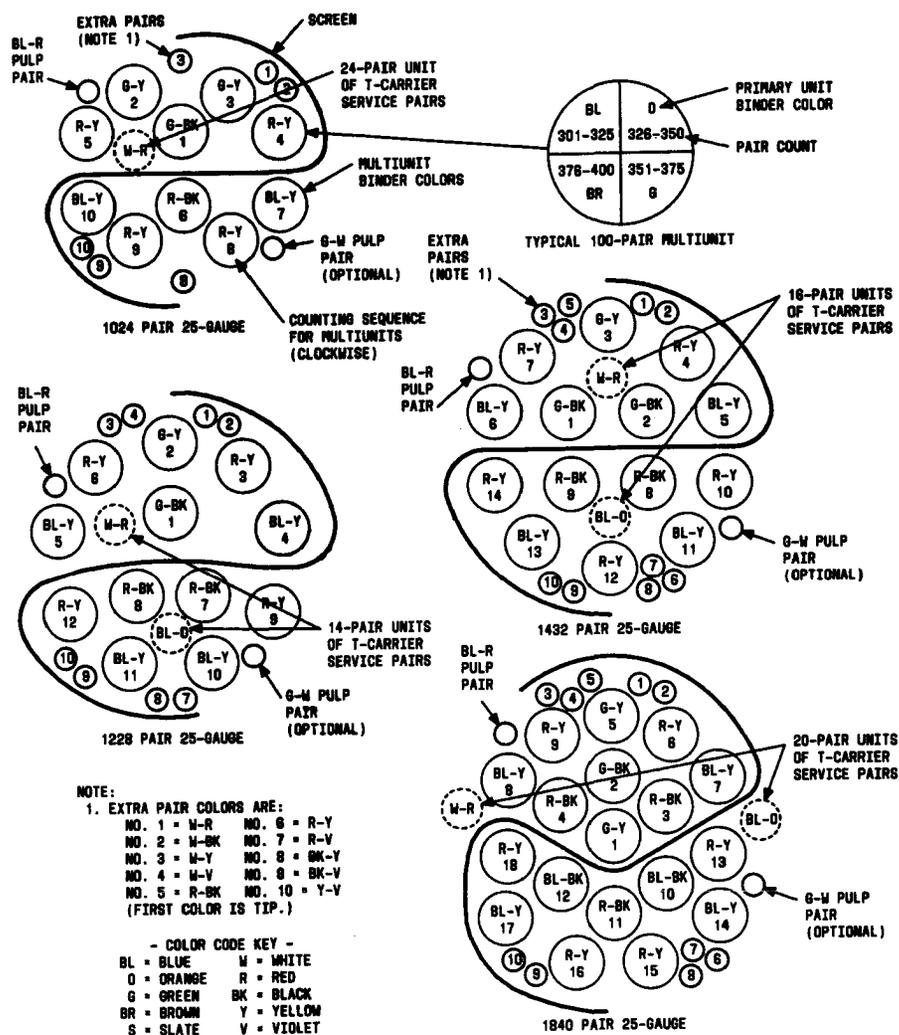

Fig. 11—1024- and 1840-Pair MAT Cable Lay-Ups (MCR)
4.17 Core lay-ups of MCR cables are shown in Fig. 11 and 12. All feature: